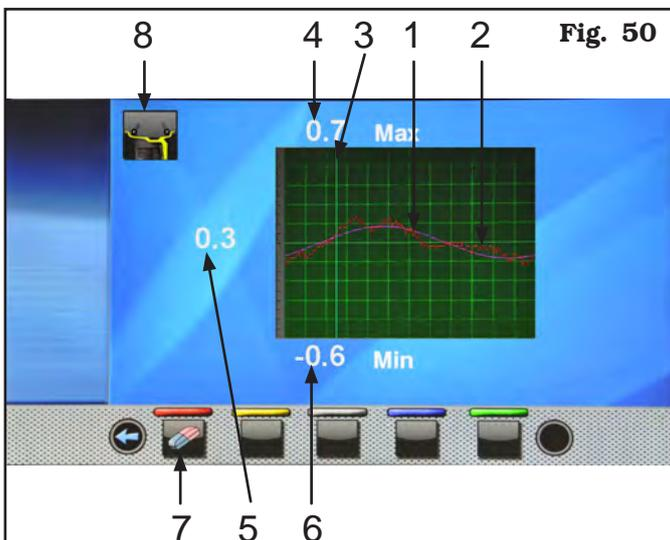

Fig. 50
Press the green button on the monitor (Fig. 48 ref. 5) to start the rim analysis procedure. The circle starts to spin at low speed (30 rpm) and at the end of the measurement the eccentricity graph appears, as shown in the Fig. 50.
The red graph (**Fig. 50 ref. 2**) represents exactly the geometric shape of the rim. The more the circle is round and linear, the more the graph is flat, unlike the more the circle has deficiencies, the more the graph is large.
You can follow the eccentricity in the graph by manually turning the rim, the green-coloured-slider (**Fig. 50 ref. 3**), indicates the position of the rim in "12 o'clock" position.